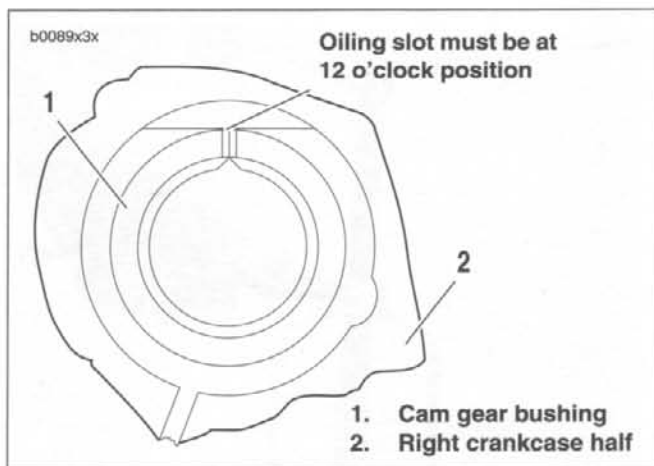

Figure 3-71. Cam Gear Bushing Installed in Crankcase
- See Figure 3-71. Each cam gear bushing (1), to be installed in right crankcase half (2), must be positioned in crankcase bore with its oiling slot at exact top of bore (12 o'clock position).
1. Separate two halves of crankcase, if not already accomplished. Place right crankcase half on flat surface with gearcase side upward. Bushing to be reamed must be oriented as shown in Figure 3-71.